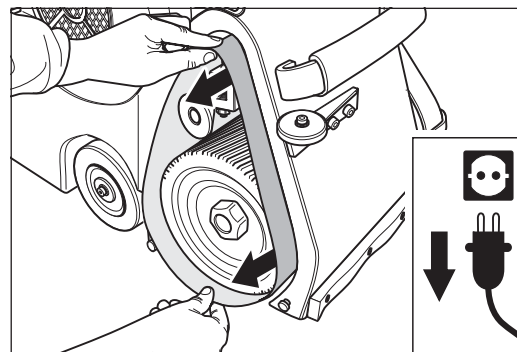

Fig. 36 Remove the sanding belt.
- 5 Remove the worn sanding belt from the tensioning roller and the sanding drum (fig. 36).